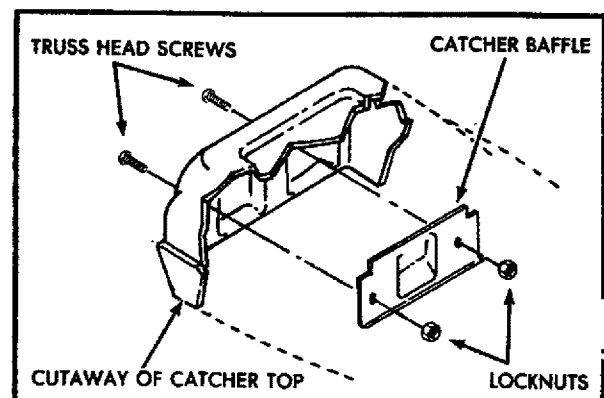

FIG. 10
5. Position baffle inside of catcher top as shown in (Fig.10). Put two (2) #10-24 x 5/8 truss head screws into holes with two (2) #10-24 locknuts. Use a flat blade screwdriver to drive screws while holding the locknuts with adjustable or 3/8" wrench.